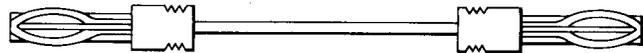

Fig. 15—735A Test Probe Tool
2.15 735A: The 735A test probe tool (Fig. 15) is a double-ended type used in connecting a circuit pack test point to ground or to another test point.